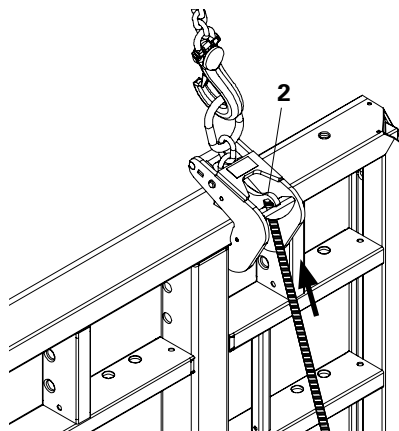
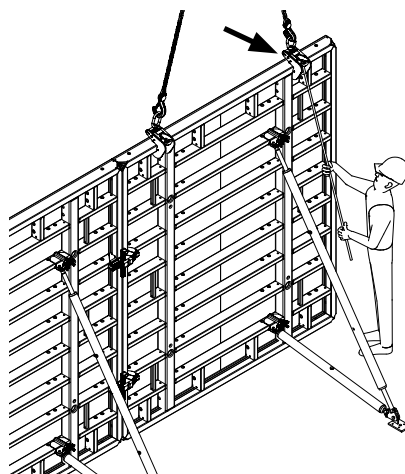

Fig. 7
Fig. 8
1. Push back the clamping jaw (2) by hand or with a tie rod against the spring resistance until the outermost position is reached and then push the Lifting Hook to the rear. (Fig. 7 + Fig. 8)